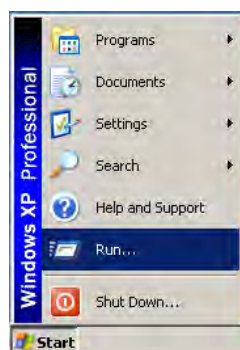

Figure 1-128. Run...
- a. On the Windows taskbar, select **Start** and **Run** (Figure 1-128).